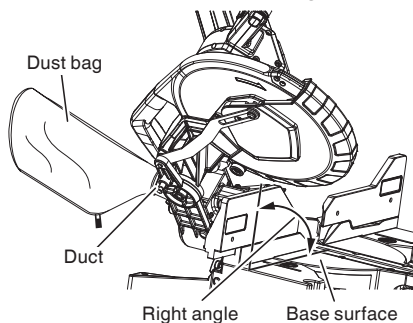

Fig. 35
- (1) When the dust bag has become full of sawdust, dust will be blown out of the dust bag when the saw blade rotates. Check the dust bag periodically and empty it before it becomes full.
- (2) During bevel and compound cutting, attach the dust bag at a right angle to the base surface as shown in Fig. 35.